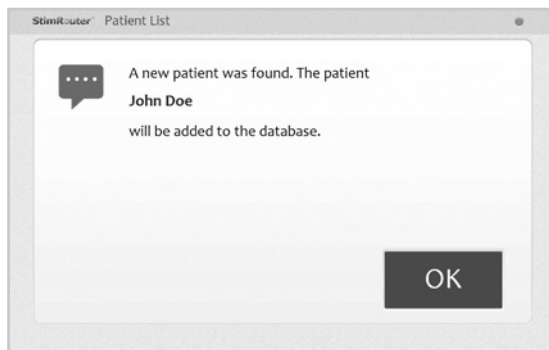

Figure 9-3: Adding a patient with an assigned system
3. The StimRouter software will automatically prompt that a new patient was found and to add the patient to the clinician programmer database. Press "OK". See Figure 9-3.